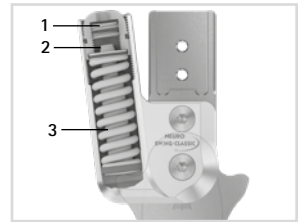
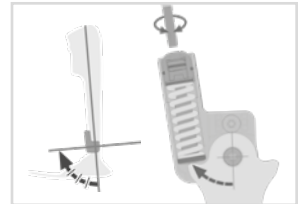
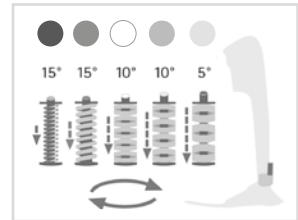

fig. 19
fig. 21
fig. 23
The alignment of the orthosis can be adjusted with the alignment screw (1; fig. 19). Note that no more than 10° fine adjustment is allowed. Do not preload the spring unit as this may damage the system joint.
- In order to increase the angle in plantar flexion, screw in the spring unit via the alignment screw (fig. 21). Make sure that the joint angle is not outside the degree markings.
- In order to decrease the angle in dorsiflexion, unscrew the spring unit via the alignment screw (fig. 21). Make sure that the joint angle is not outside the degree markings.
The range of motion in plantar flexion or dorsiflexion is continuously adjustable with the motion limiting screw (2; fig. 19). Each spring unit determines the maximum possible range of motion. They are available for 5°, 10° and 15° range of motion. By screwing in the motion limiting screw, the respective maximum possible range of motion can be limited or completely blocked (fig. 21).
The spring force can be changed by exchanging the spring units (3; fig. 19). Insert a spring unit into the spring duct that corresponds with the required spring force. There are five spring units with spring forces ranging from normal to extra strong (fig. 23). Note that the spring unit determines the maximum possible range of motion.